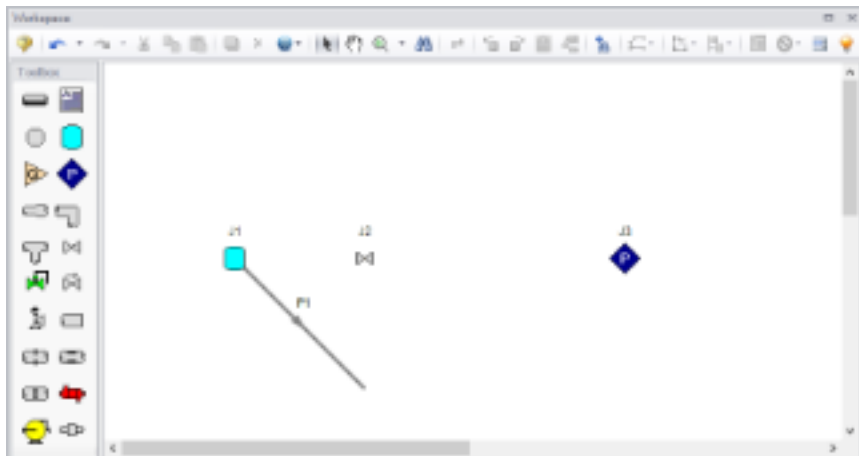
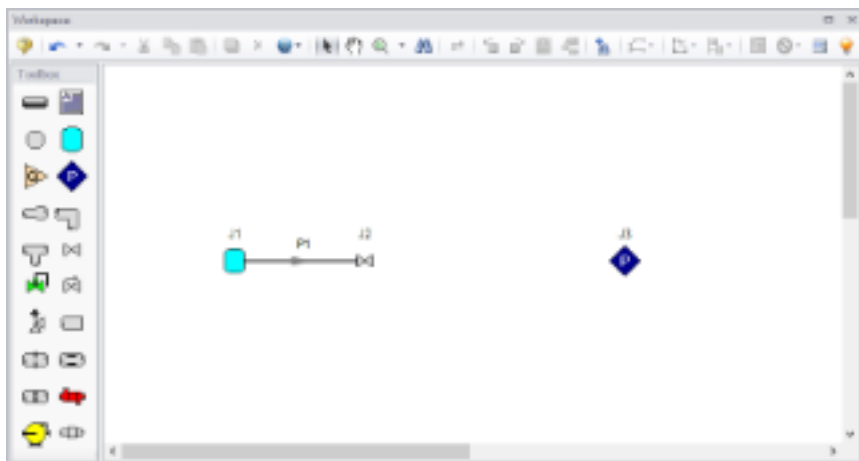

Figure 2.4d First pipe partially connected
Figure 2.4e First pipe fully connected
- **To place the pipe between J1 and J2**, use the mouse to grab the pipe in the center and drag it so that the left endpoint falls within the J1 Tank icon, then drop it there (see Figure 2.4d). Next, grab the right endpoint of the pipe and stretch the pipe, dragging it until the endpoint terminates within the J2 Valve icon (see Figure 2.4e).